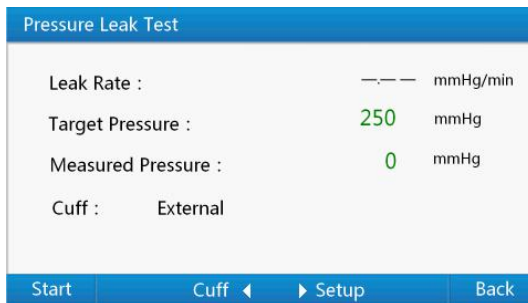

Figure 10 Pressure leak test interface
- 1) Use up or down key in "**Pressure Test Menu**" to select "**Pressure Leak**", then press "**Enter Key**" to "**Pressure Leak Test**" interface shown as Figure 10,As a shortcut,you can use number key "**1**" to this interface quickly, In this interface, pressing "**Return Key**" can get back to "**Pressure Test Menu**".